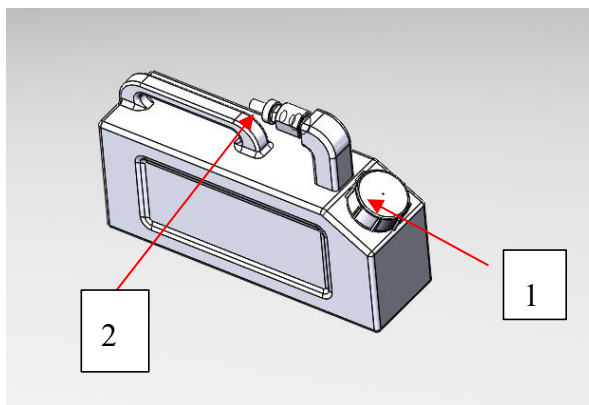

Figure 12.10: Large container
● For waste liquid, take out the container from the large container rack, open the container cover (1 in Figure 12.10), and treat the waste liquid according to the method of your laboratory.
container cover (1 in Figure 12.10), and treat the waste liquid according to the method of your laboratory.
- For large reagents, open the container cover (1 in Figure 12.10) and fill the reagent as needed without taking the container out of the rack.
④ Routine cleaning of large reagent container can be done with an industrial grade detergent and rinse with deionized water.
④ Clean the reagent container monthly and wash with bleach or industrial strong detergent, and then rinse well with deionized water.